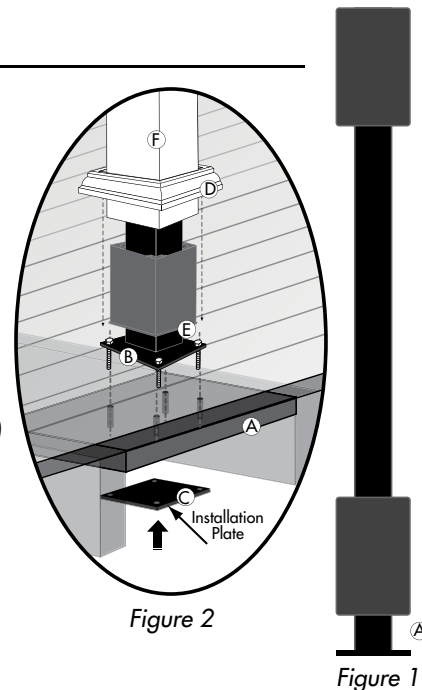

Figure 2
- 3.) Raise bottom plastic spacer *Figure 1 (A)*, *Figure 2 (E)* temporarily to allow room to fasten steel post to deck.
- 4.) Mark holes through bottom plate of steel post *Figure 2 (B)* onto deck surface – Drill 3/8" hole in all four locations.
- 5.) Push 5/16" bolts (not included) through post plate and attach separate bottom plate *Figure 2 (A,C)* from underneath deck surface (posts can be leveled as needed by using steel washers as shims).
- 6.) Replace bottom plastic spacer to original position *Figure 2 (E)*.
- 7.) Slide Vinyl Post *Figure 2 (F)* over post insert.
- 9.) Install base trim *Figure 2 (D)* around post sleeve at deck surface before installing rail.